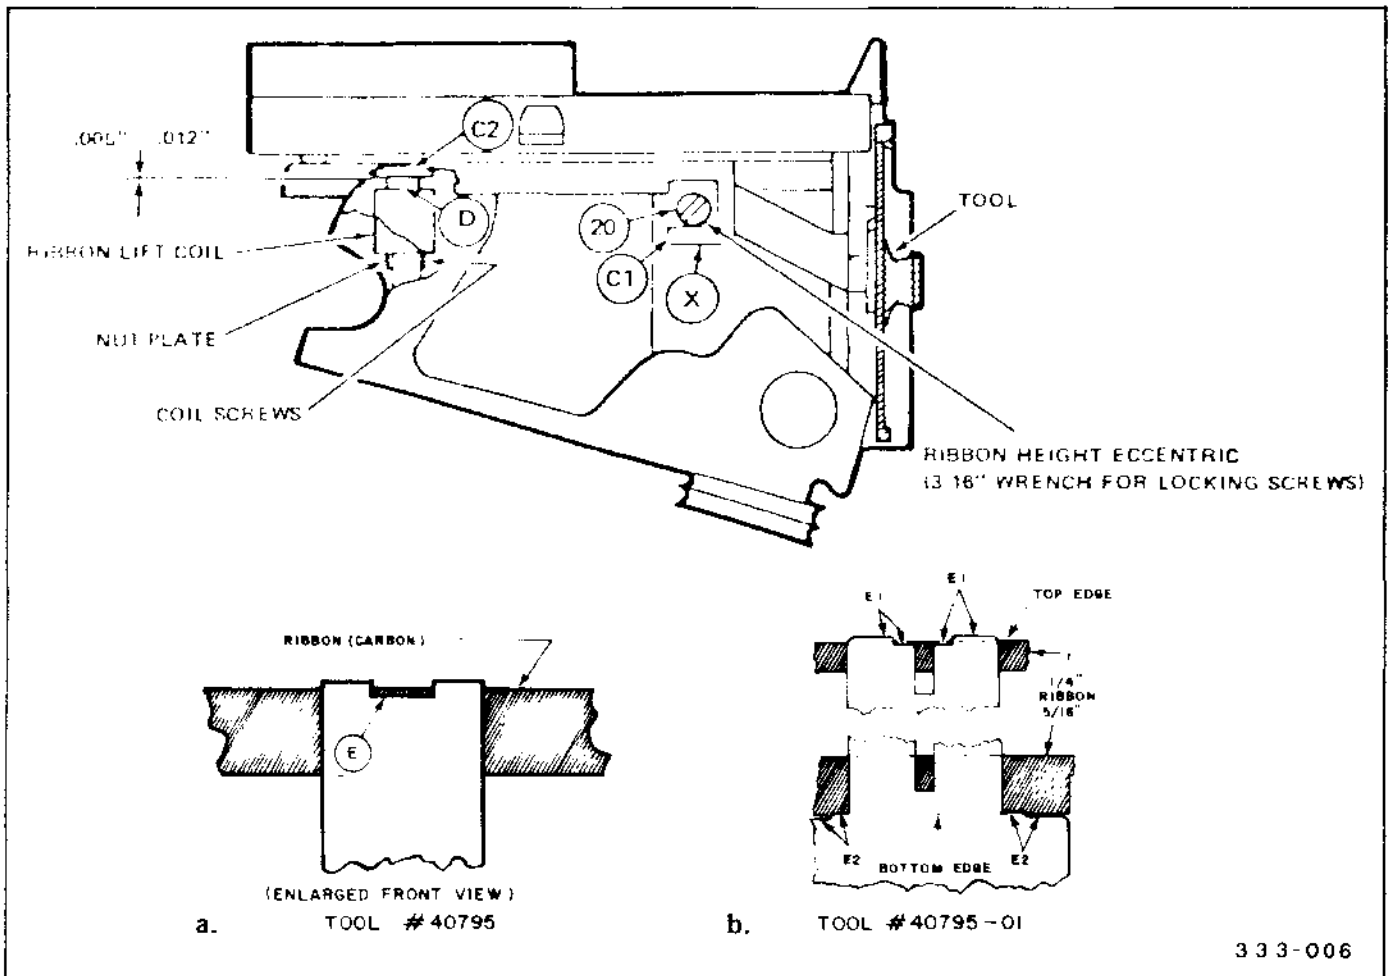

Figure 3-27. Ribbon Height Adjustment
3.4.1.4.5 Ribbon. Refer to Figure 3-27. Proceed as follows: